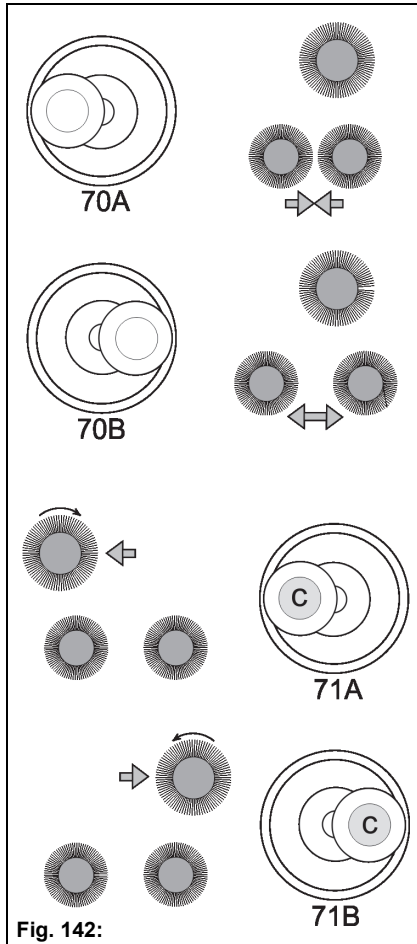

Fig. 142:
- Changeover to the left-hand side: Press the button **Fig. 142-C** and simultaneously move the joystick **Fig. 142-75 (A)** to the left. The 3rd rotating brush pivots to the left-hand side. The direction of rotation of the 3rd rotating brush is adjusted automatically.
- Changeover to the right-hand side: Press the button **Fig. 142-C** and simultaneously move the joystick **Fig. 142-75 (A)** to the right. The 3rd rotating brush pivots to the right-hand side. The direction of rotation of the 3rd rotating brush is adjusted automatically.